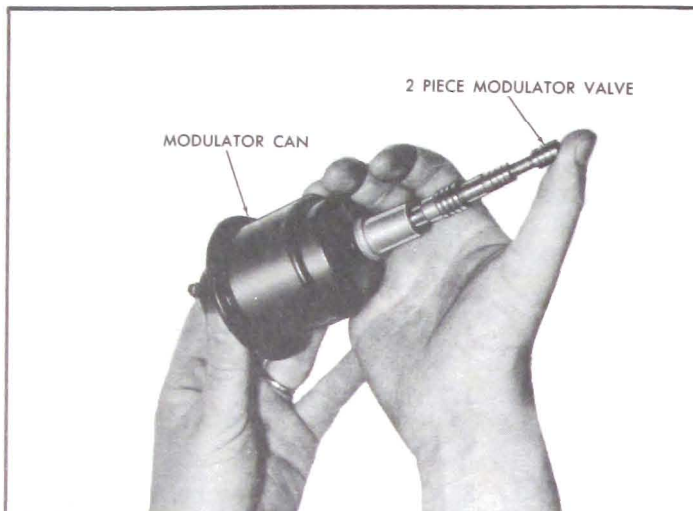

Figure 5-362—Checking Modulator Can Assembly
4. Check for defective modulator. See Figure 5-362.
a. Modulator can load check. See Figure 5-362.